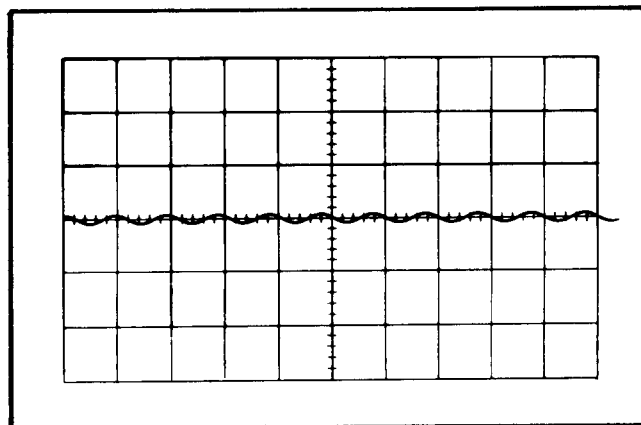

Fig. 5-16. Typical CRT display when checking high-frequency reject operation at 50 kilohertz.
c. CHECK—Stable CRT display (see Fig. 5-16) can be obtained with the B LEVEL control.
i. CHECK—Stable CRT display (see Fig. 5-16) can be obtained with the A LEVEL control.